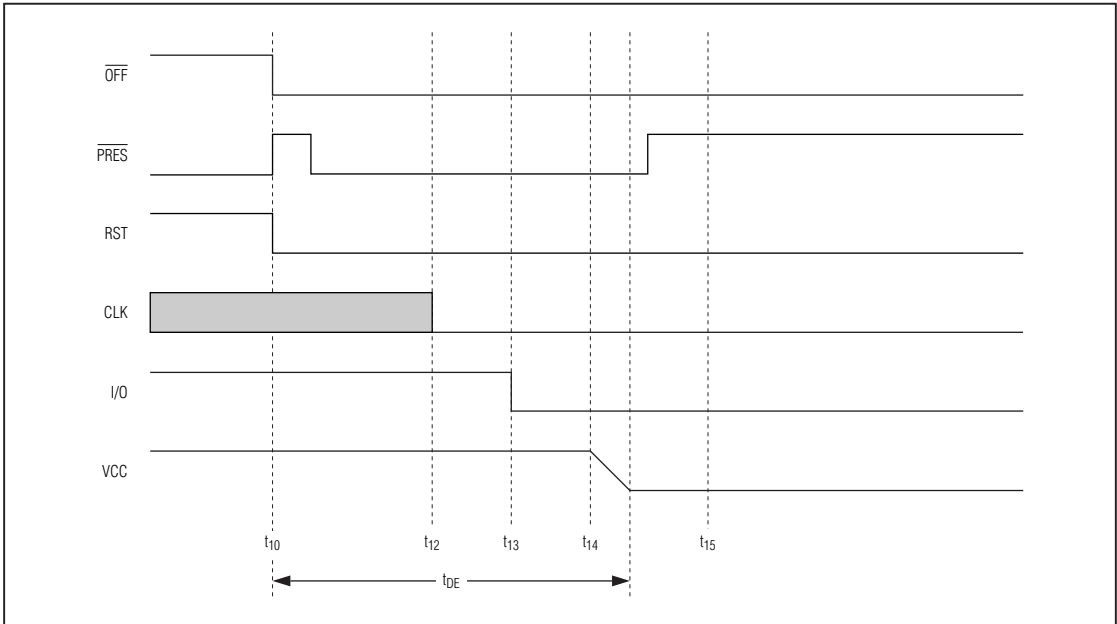

Figure 7. Emergency Deactivation Sequence (Card Extraction)
- **$\overline{\text{CMDVCC}}$  Low Within a Card Session.** Output  $\overline{\text{OFF}}$  goes low when a fault condition is detected, and an emergency deactivation is performed automatically (Figure 7). When the system controller resets  $\overline{\text{CMDVCC}}$  to high, it may sense the  $\overline{\text{OFF}}$  level again after completing the deactivation sequence. This distinguishes between a card extraction and a hardware problem ( $\overline{\text{OFF}}$  goes high again if a card is present). Depending on the connector's card-present switch (normally closed or normally open) and the mechanical characteristics of the switch, bouncing can occur on the PRES signals at card insertion or withdrawal.